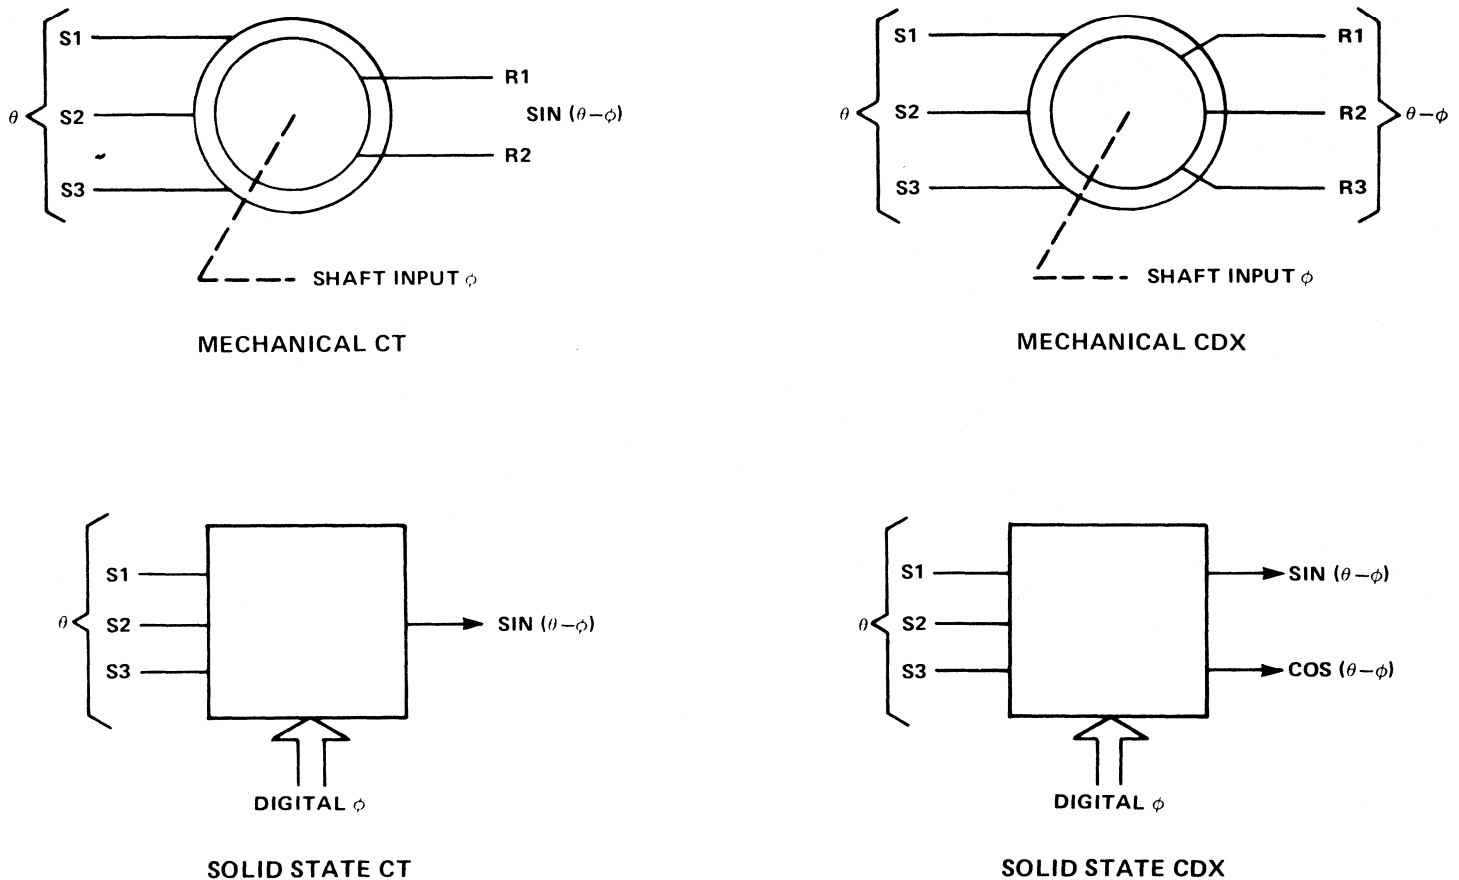

FIGURE 1
This section will explain several special synchro conversion functions and their applications. The functions discussed (Figure 1) will be a solid state control transformer (CT) and a solid state control differential transmitter (CDX).
Solid state CTs and CDXs are the electronic equivalents of their mechanical counterparts, the major difference being that the mechanical shaft is replaced with a digital word (see Figure 1). Thus, the two inputs are a synchro angle here referred to as θ , and a digital input referred to as ϕ . The output from a CT is a voltage derived from the reference whose amplitude is equal to $\sin(\theta - \phi)$, while the output from a CDX includes both $\sin(\theta - \phi)$ and $\cos(\theta - \phi)$ to form a resolver output. Both devices use special multiplying D/As to solve the equation: